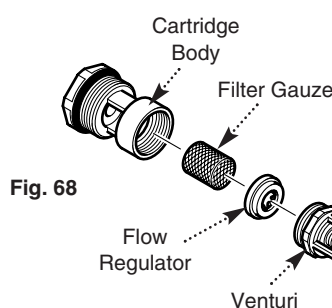

Fig. 68
12.23 Flow Regulator (Figs. 68 & 69)